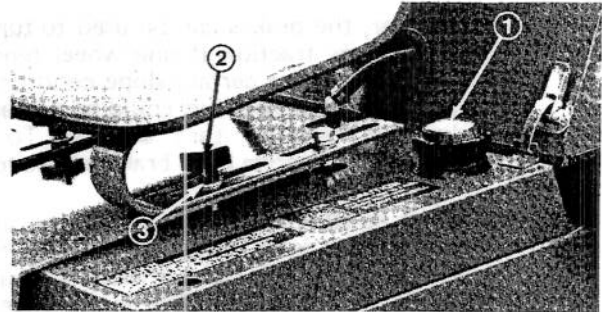

Figure 17
1. Tip seat forward and prop it so it cannot fall accidentally. Using a clean rag, clean area around fuel tank cap (Fig. 17).
Seat Adjusting Handle — Standard Seat (Fig. 17) — To adjust seat, loosen adjusting handle and slide seat to desired position. Tighten handle to lock seat in place.